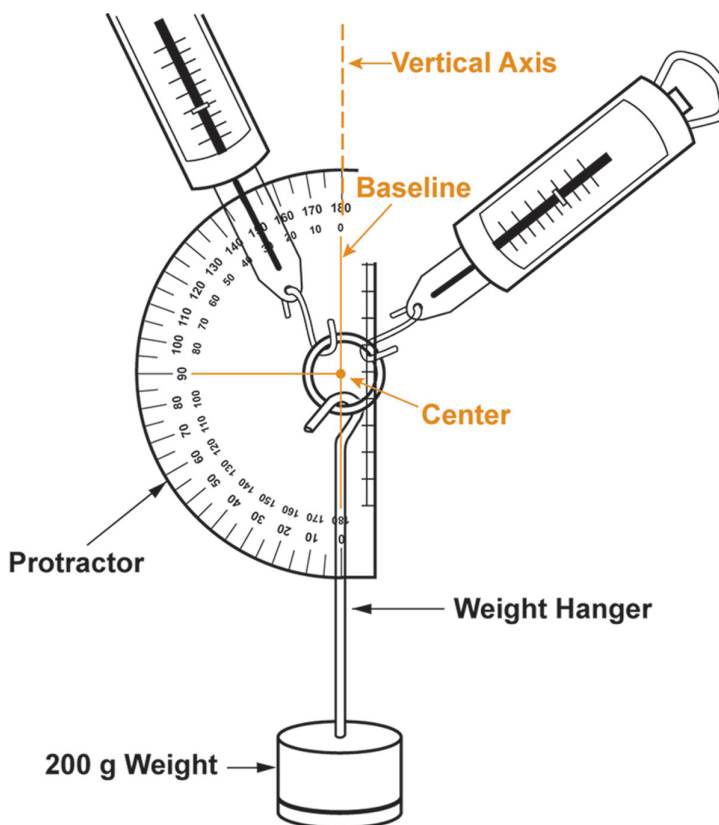

Figure 5
- ❑ 4. Use the protractor to measure the angle of each force with respect to the vertical axis. Position the protractor so that the center mark is aligned with the center of the O-ring. Align the baseline of the protractor along the shaft of the weight hanger. See Figure 5.